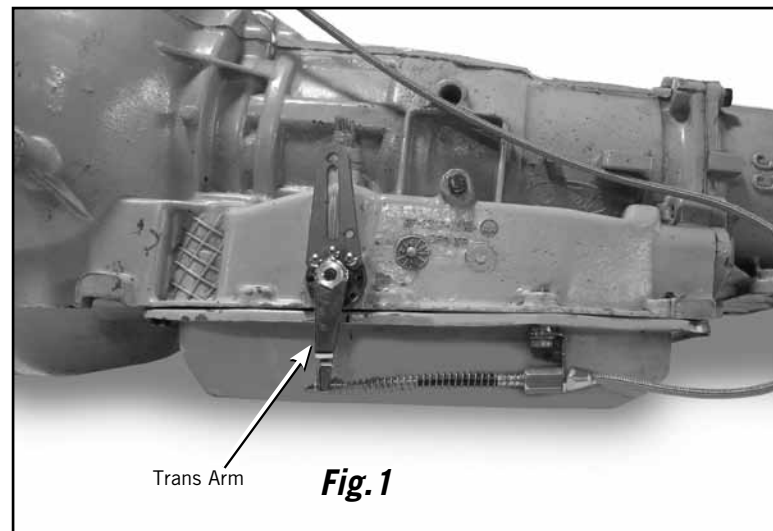

Fig. 1
With the T.V. arm facing down: Install the supplied 3/8 thick spacer between the pan rail and the cable attaching bracket. Use the washers on the head of the supplied 8 mm bolt; the spacer will keep the cable inline with T.V. arm. **Fig. 1**
Step 2: Install T.V. lever and nut onto threaded T.V. shaft in the center of trans shift lever. **Fig. 1**